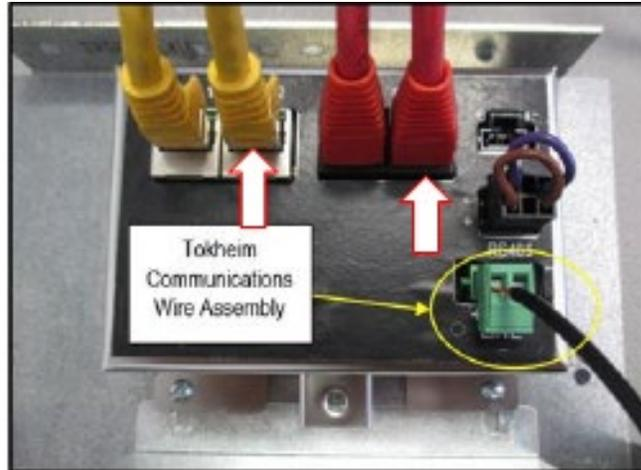

Figure 61
- 9) Similarly to steps 7)-8) Unplug and mark the remaining Yellow Cat5e, Red Cat5e, and Tokheim communications wire assembly cables from the Invenco Link ports labeled "LAN2", "RS232-2", and LINE respectively. See Figure 61 below.